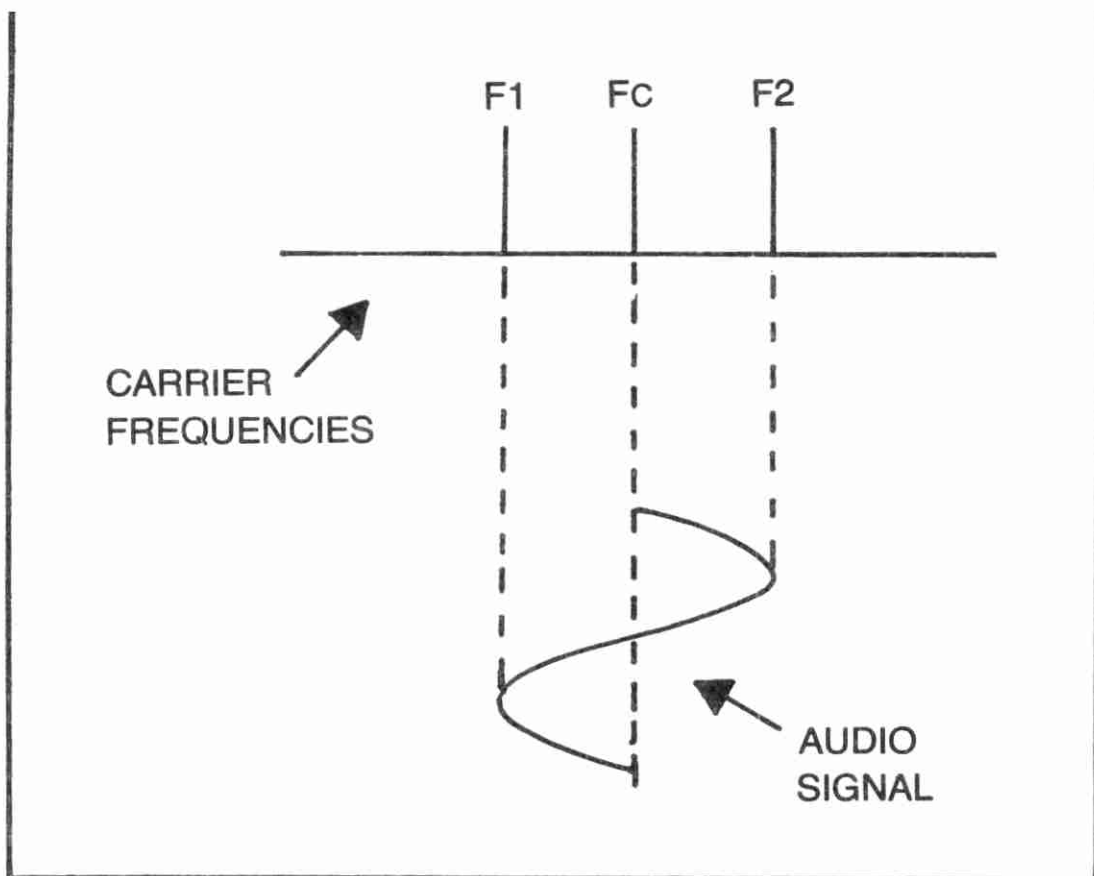

Fig. 12-3. Relationship of the audio signal to the FM RF carrier.
In frequency modulation (FM) systems, the carrier frequency of a radio transmitter is varied by an audio-frequency voltage (see Fig. 12-3). The relationship between the modulating voltage and the rf-carrier frequency is shown in Fig. 12-3. When the audio signal voltage is zero, then the rf carrier will be at a frequency F_c , called the “carrier frequency.” This is the frequency quoted as the channel frequency in communications equipment (for example, 146.34 MHz). When the audio-signal *voltage* increases in the positive direction, the rf carrier frequency will increase, until it reaches a maximum point (F_2) when the audio signal reaches its peak. As the audio signal passes its peak, the rf-carrier frequency will swing back the other direction, until it is once again at the carrier frequency (F_c) at the zero crossover of the audio signal. The rf carrier will then
There are several concepts in FM and PM circuits that are sometimes misunderstood. For example, *deviation* is the amount of change in carrier frequency between its unmodulated value (F_c) and one of the extremes (either F_1 or F_2). Deviation is specified in units of frequency, i.e., hertz or kilohertz. *Frequency swing*, on the other hand, is the total frequency shift from the lowest extreme to the highest extreme (i.e., F_2 minus F_1), and is also specified in units of frequency. The relationship between the deviation and the frequency swing depends upon the modulating waveform. For a perfectly symmetrical waveform, such as the sinewave in Fig. 12-3, the deviation will be precisely one half of the frequency swing. But if the sinewave were distorted, or if another (nonsymmetrical) waveform were used, then the positive deviation ($F_2 - F_c$) would not equal the negative deviation ($F_c - F_1$) so we would not expect the frequency swing to be exactly twice the deviation, but instead, it would be $[(F_2 - F_c) + (F_c - F_1)]$.